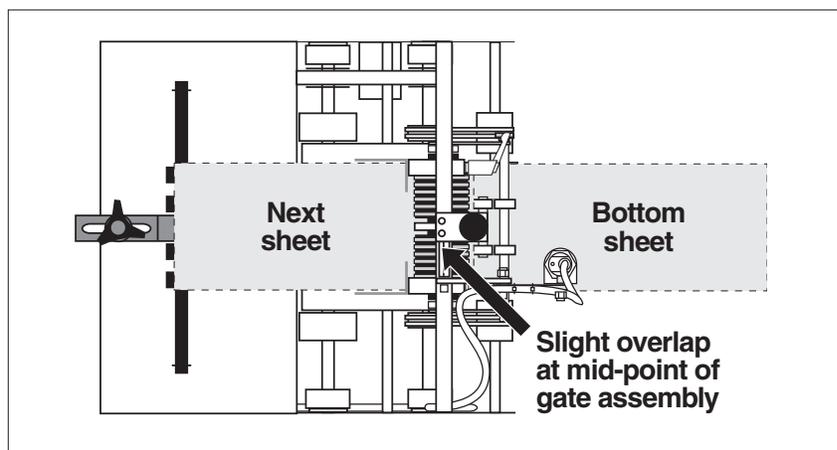

Figure 28. Optimum Overlap and Separation of Material
2. Observe how individual material enters and exits the gate assembly area. Remember, a properly set gap will allow each new sheet to enter at about the center line of the cylinder while the bottom sheet is exiting the gate assembly area (Figure 28). Ideal overlap is 1/4 to 1/2 in. (6.4 to 12.7 mm).
It might be helpful to know that a properly set gap will allow the leading edge of sheet to enter at about the center line of the cylinder (refer back to Figure 28), as the previous or bottom sheet is exiting the gate assembly area.